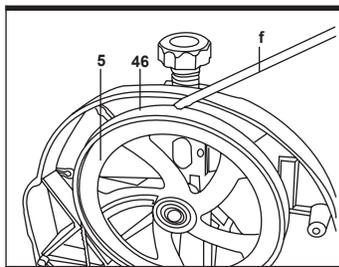

Fig 12
9. Changing the rubber tires on the band pulleys (See Fig12)